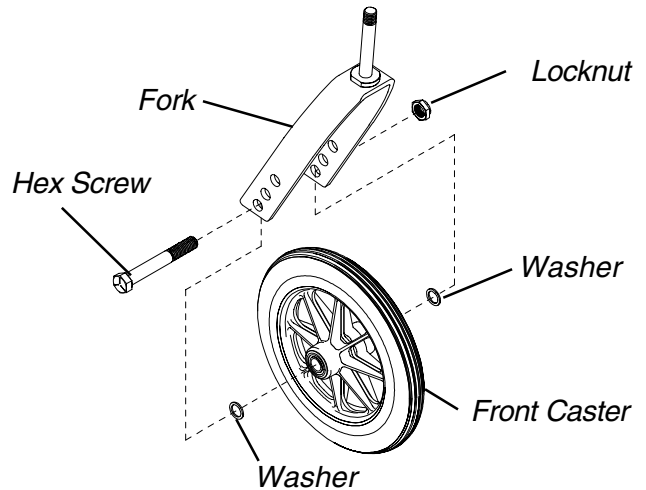

FIGURE 1 - FRONT CASTER MOUNTING ADJUSTMENTS
CHANGING SEAT-TO-FLOOR HEIGHT (FIGURES 1, 2 AND 3)
1. Determine the model and frame style of your wheelchair. Refer to the following chart and **FIGURE 1**.